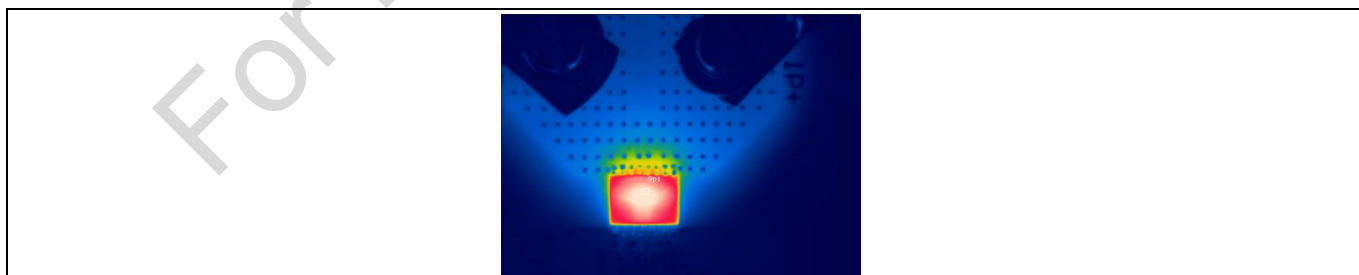

Figure 15 Leaded Competitor Sensor temperature distribution at 50A; (121°C package temperature)
- Figure 15 shows that due to the leaded pins the thermal connectivity is less to get the heat into the PCB. Therefore the sensing element runs very hot.